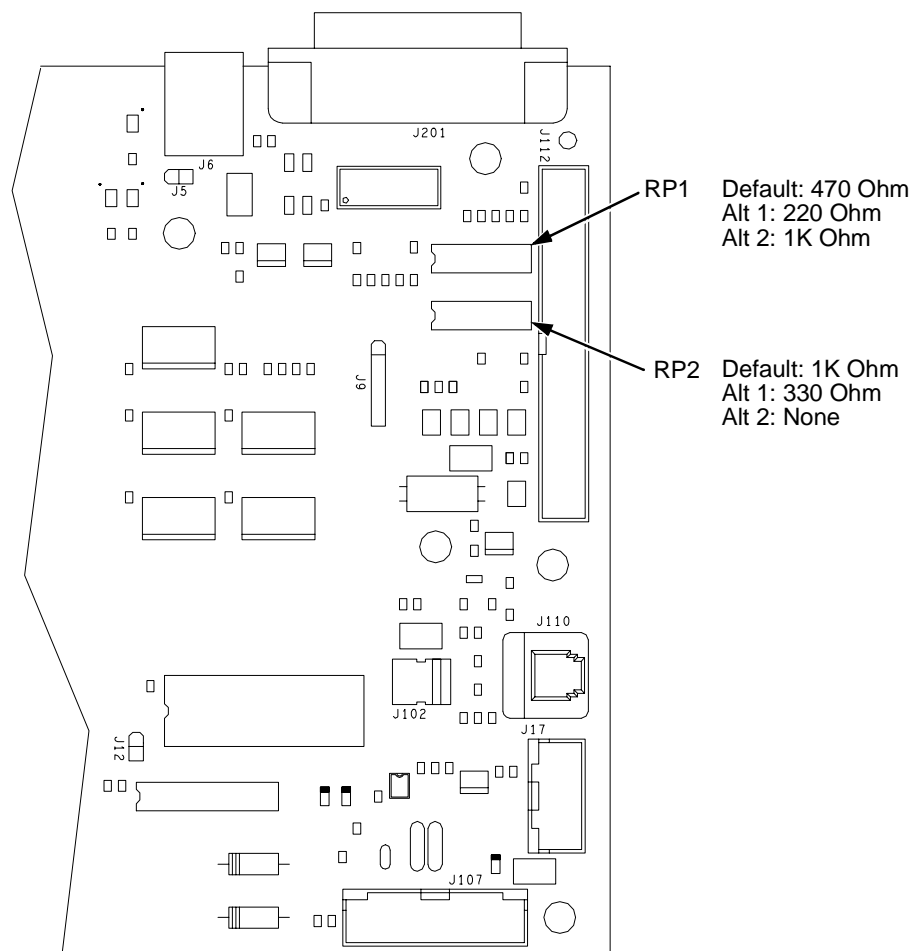

Figure 30. Terminating Resistors, Removal/Installation
For parallel interface configurations, the printer is equipped with 470 Ohm pull-up terminating resistors and 1K Ohm pull-down terminating resistors on the controller board. These are suitable for most applications. (See Figure 30, page 208.)
3. Locate the terminating resistor packs. (See Figure 30, page 208.)
1. Using a chip installation tool, install the resistor packs in the correct socket. (See Figure 30, page 208.)